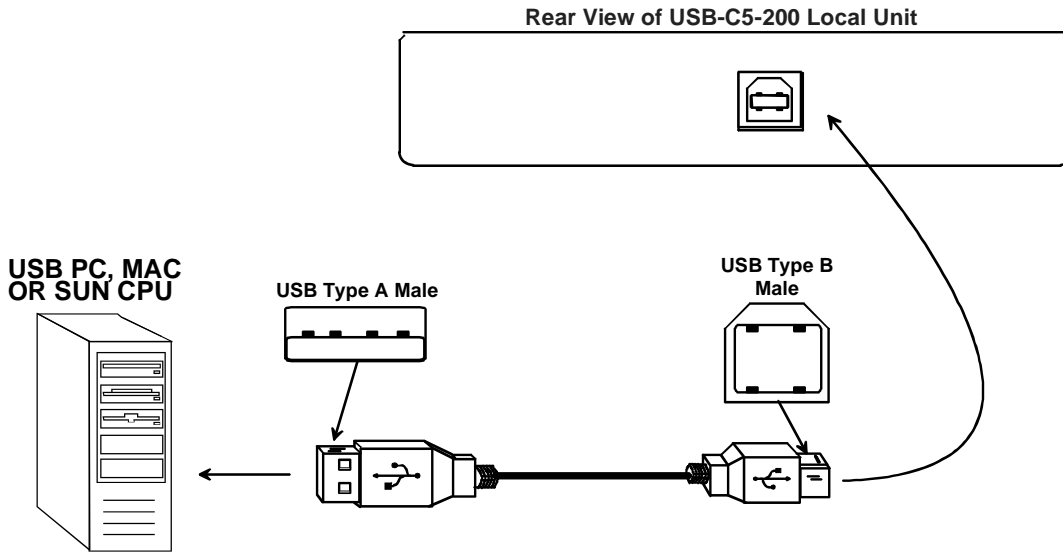

Figure 1- Connect device cable to the Local Unit
| Figure 1- Connect device cable to the Local Unit .....     | 3 |
1. Connect the USB2-AB-1M-5T USB cable from the Local Unit to the back of the CPU. (See Figure 1.)